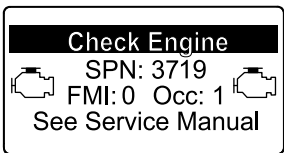

Figure 79
- Engine warning SPN 3719, FMI 0 (Figure 79)